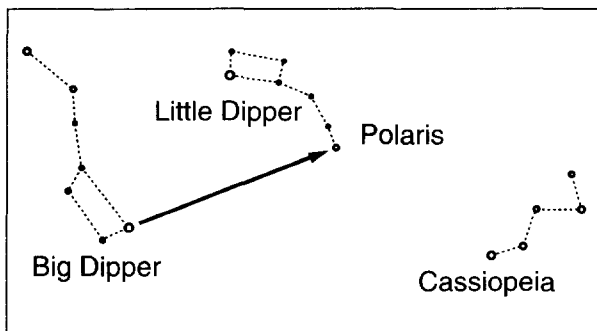

Fig. 9: Locating Polaris
5. Note the dotted line and arrow extending from the telescope tube in Fig. 8. This line defines the telescope's polar axis. Lift the entire telescope, including tripod, and place the telescope on a tabletop so that this axis is pointed due North. For example, if you know the location of Polaris, the North Star, then point the telescope directly at Polaris. (See Fig. 9.)